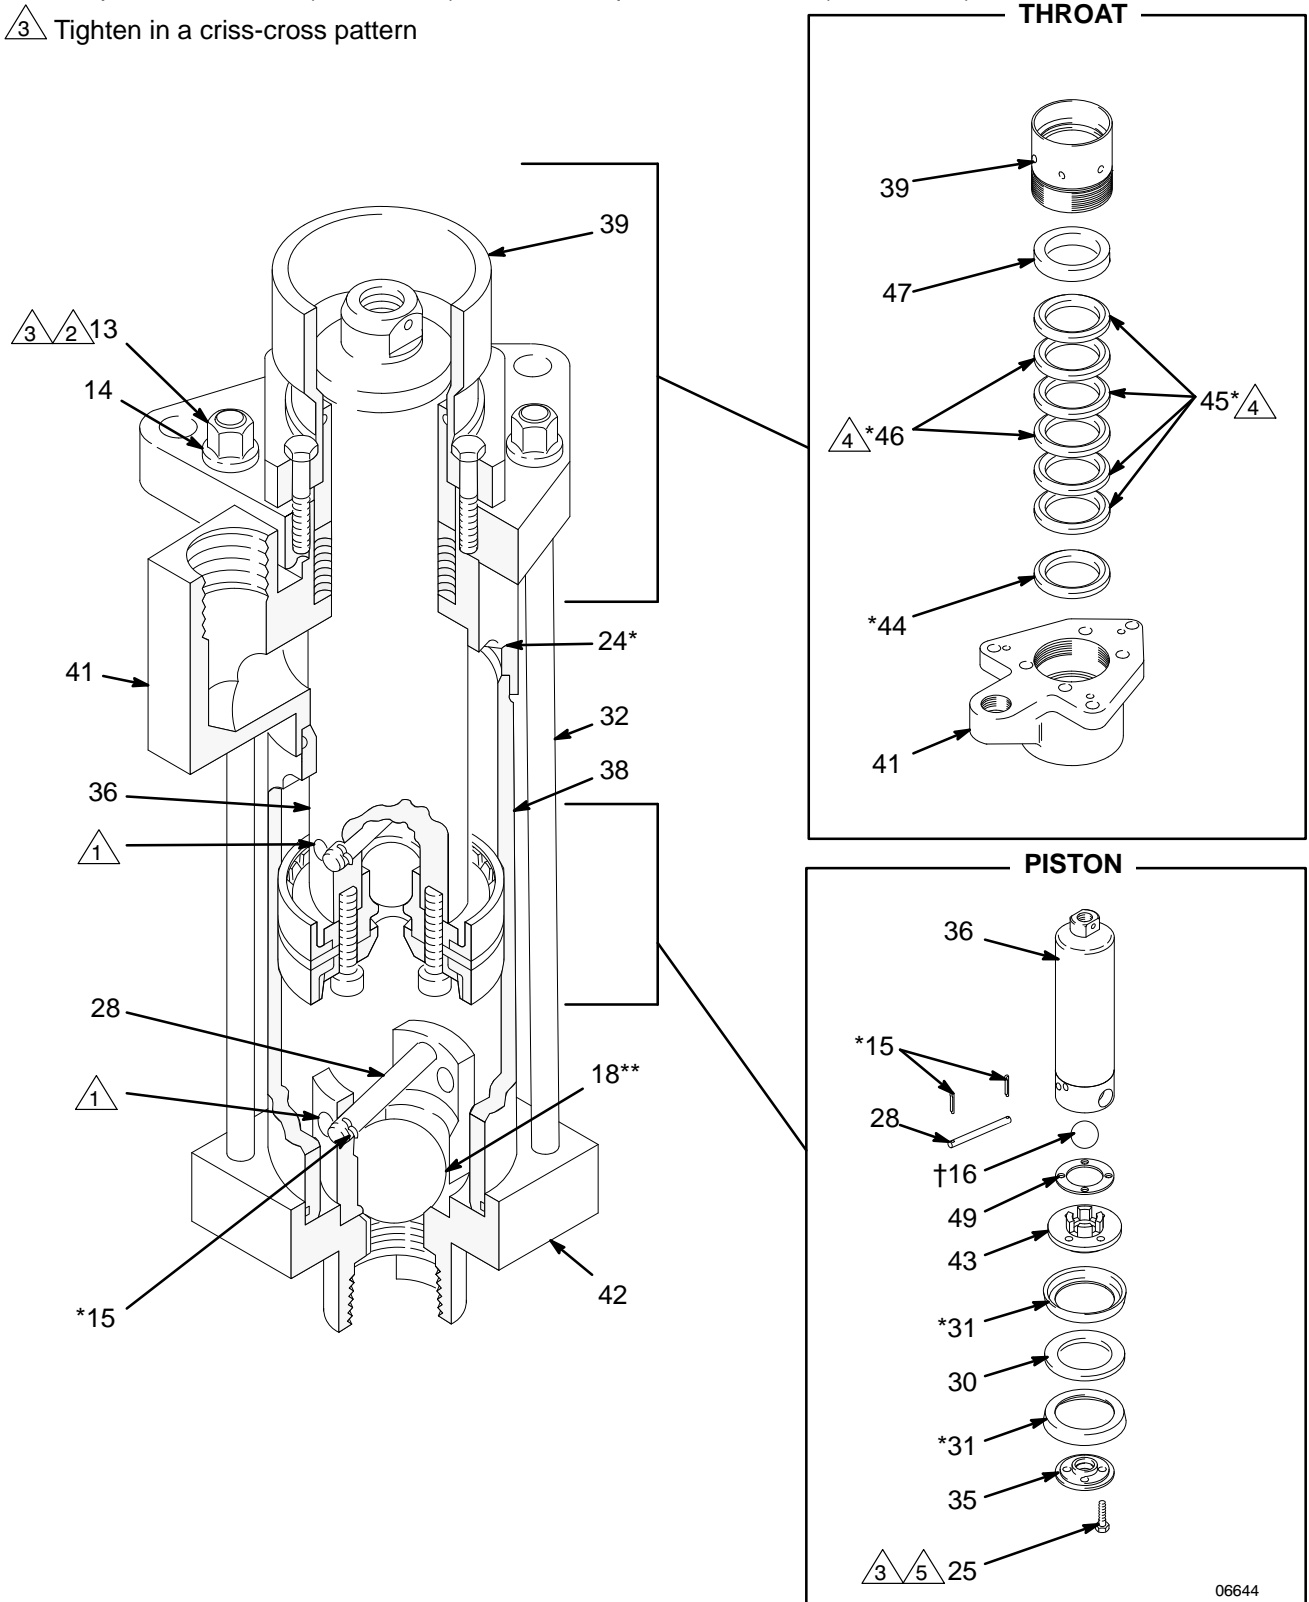

Fig. 1
## Intake Valve (Fig. 1)
## Piston (Fig. 1)
## Throat Packings (Fig. 1)
*For lighter fluids or lower volume requirements, or to reduce surging at the stroke change-over, decrease the travel of the balls (16 and 18). Move the pins (28) to a lower set of holes. See Fig. 1 and refer to the pump disassembly procedure above.*
*For heavier fluids or to increase the flow, increase the travel of the balls (16 and 18). Move the pins (28) to a higher set of holes. See Fig. 1 and refer to your pump disassembly procedure above.*